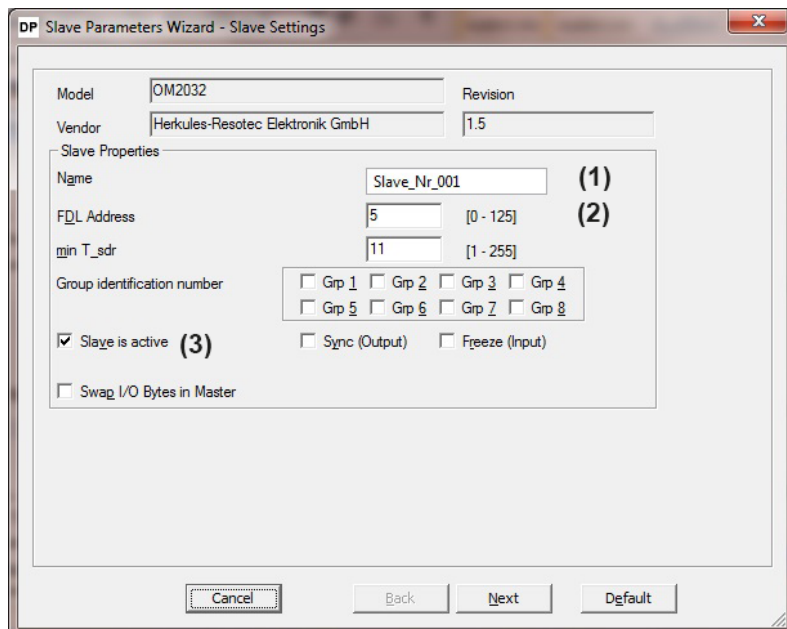

Fig. 6.21: Dialog „Slave Settings“
The „Slave Setting“ dialog (Fig. 6.21) opens.
- ⇒ Set the following parameters (Fig. 6.21) here:
- (1) Name:** Text, name of the PROFIBUS station
- (2) FDL_address:** Number between 1 and 125, this is the slave address of the OM 2032. **Attention:** This number must match the hardware address of the device. (see chapter 6.4.5)
- (3) Slave is active:** Control box, switch on